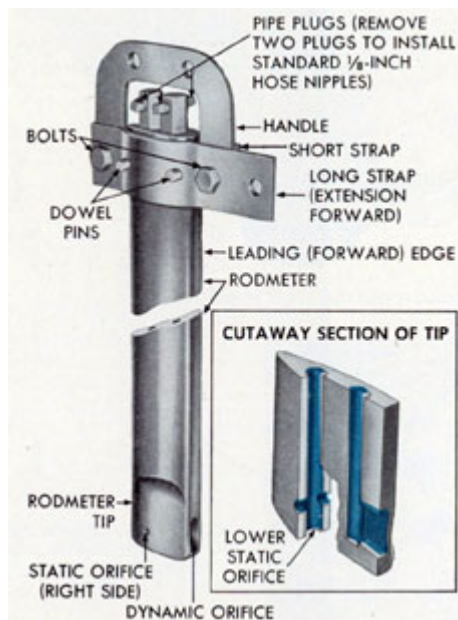

Figure 10-1. The Bendix rodmeter.
**10A2. Rodmeter.** The rodmeter (Figure 10-1), commonly called the sword, is located in the forward torpedo room below the light draft water line. It projects through the hull of the ship, into the water, and is the unit in which static and dynamic pressures are produced and transmitted to the other units of the system. When in use, the rodmeter extends about 3 feet into the water. Being located in the forward part of the ship,
**10C1. Rodmeter.** The Bendix rodmeter (Figure 10-1) is made of manganese bronze, and is approximately 8 feet long. This length is necessary in order that the rodmeter may be projected through the inner and outer hulls of the submarine. It has a streamline cross-section, with a flat tip at its lower end. Two water passages are formed in the rodmeter; the upper ends of these passages terminate in tapped openings, protected by pipe plugs. Standard pipe fittings are installed in these tapped openings in order that the flexible hose may be attached to the rodmeter. The lower end of the forward passage in the rodmeter terminates in an opening in the forward edge, called the dynamic orifice. The lower end of the after passage terminates in three openings, one on each side of the tip and one in the bottom of the tip. The latter openings are called the static orifices. A handle and two straps are mounted at the top of the rodmeter to serve as a means of raising and lowering the rodmeter. When lowered, the rodmeter projects about 3 feet through the outer hull into the water. A lifting device is provided in the ship for raising and lowering the rodmeter and for replacing it in the event of damage. The rodmeter must always be raised, or housed, when the submarine docks or when, for tactical reasons, the submarine rests on the ocean floor.